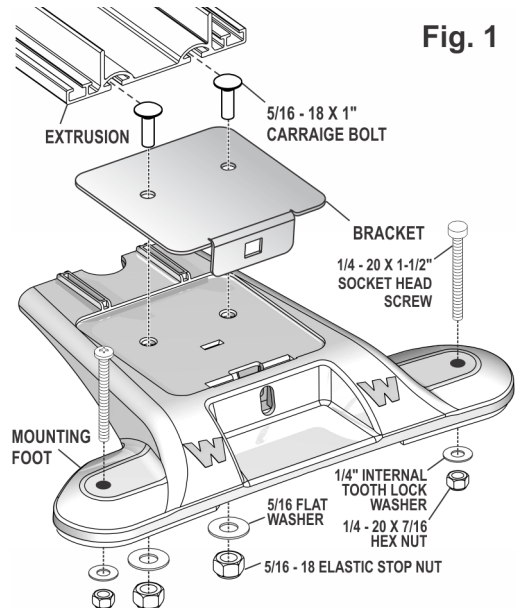

Fig. 1
2. Install the mounting foot onto the lightbar extrusion by sliding the heads of the two carriage bolts you installed into the two tracks in the bottom of the extruded base (Fig. 1).